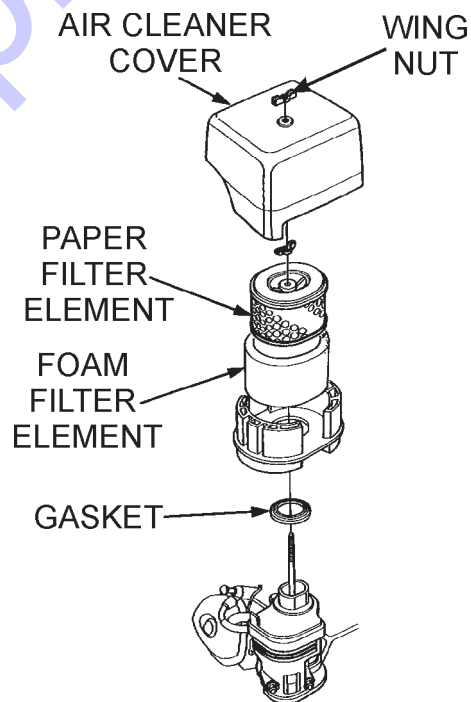

Figure 26. Engine Air Cleaner
- Remove the air cleaner cover and foam filter element as shown in Figure 26.
- Tap the paper filter element (Figure 26) several times on a hard surface to remove dirt, or blow compressed air [not exceeding 30 psi (207 kPa, 2.1 kgf/cm2)] through the filter element from the air cleaner case side. **NEVER** brush off dirt. Brushing will force dirt into the fibers. Replace the paper filter element if it is excessively dirty.